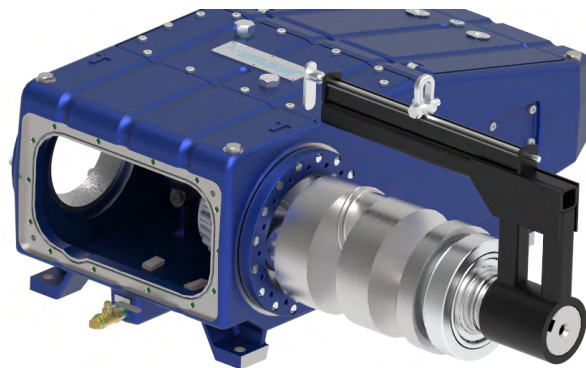

Figure 167: Pull Crankshaft from Pump
12. Pull the crankshaft out of the pump with the lifting tool while adjusting the leveling wheel on the lifting tool as needed to keep it horizontal (Figure 167)